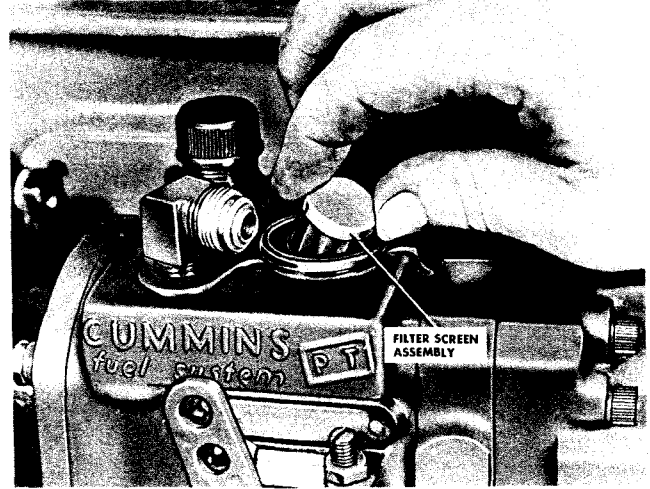

Fig. 5-15. Removing fuel pump filter screen
1. Loosen and remove cap at top of fuel pump. Remove spring. Lift out filter screen assembly. Fig. 5-15.